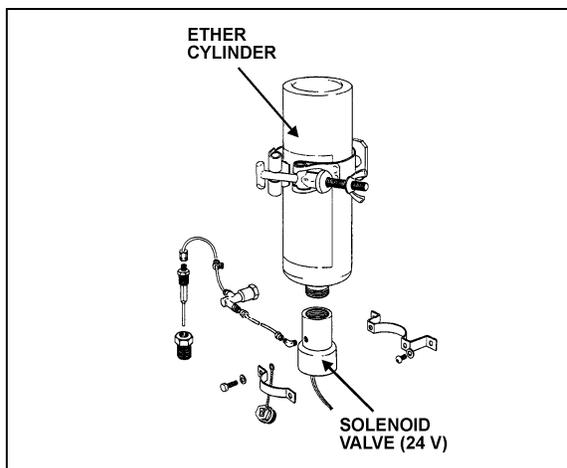

FIGURE 18: COLD STARTING AID
1. Check cylinder for hand tightness and fuel supply (Fig. 18). Empty cylinder weight is approximately 17 oz (480 g); full cylinder weight is approximately 35 oz (990 g). If